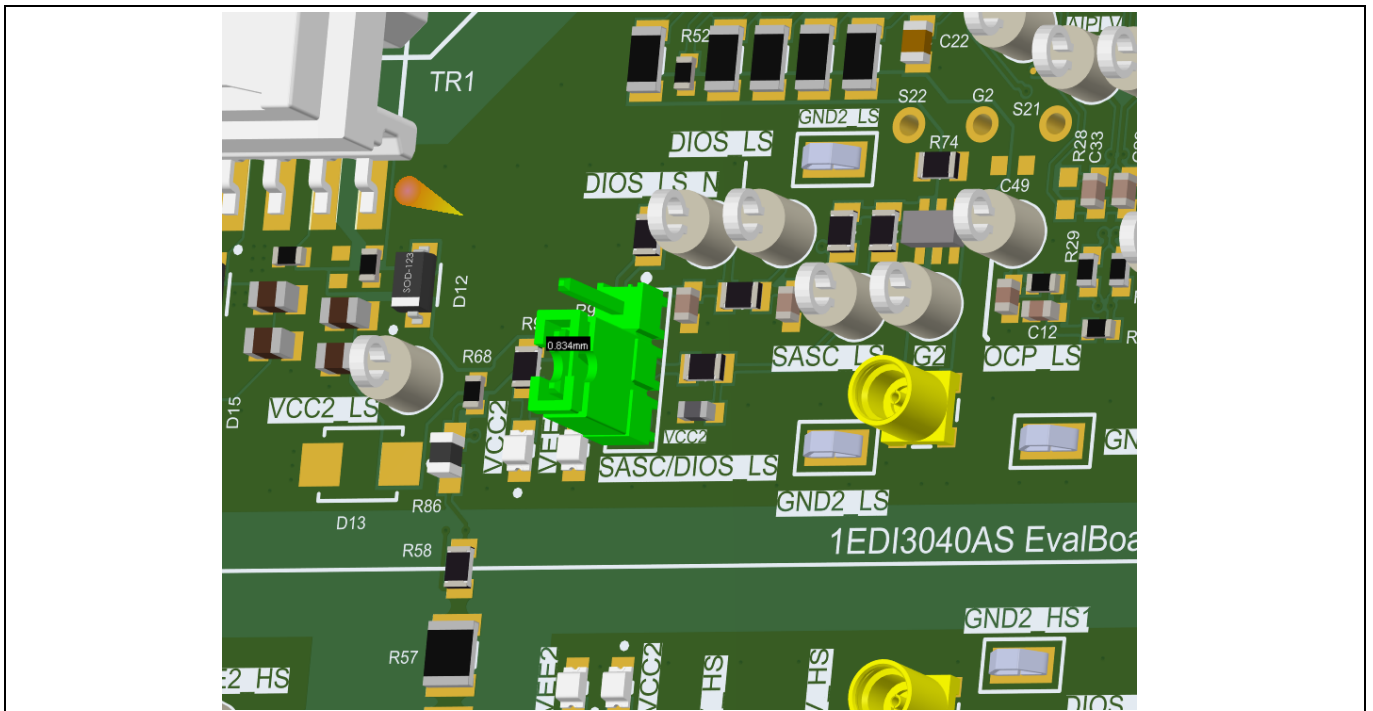

Figure 30 Jumper connection for triggering SASC
- Connect jumper SASC/DIOS_x in position “2-3” for either the HS or LS gate driver as shown in Figure 30